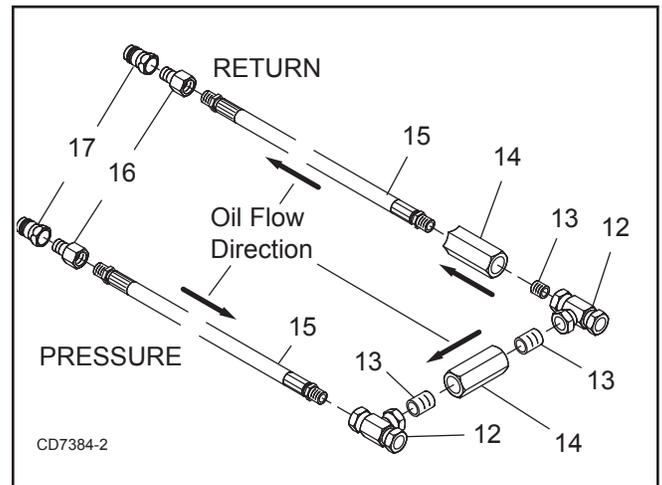
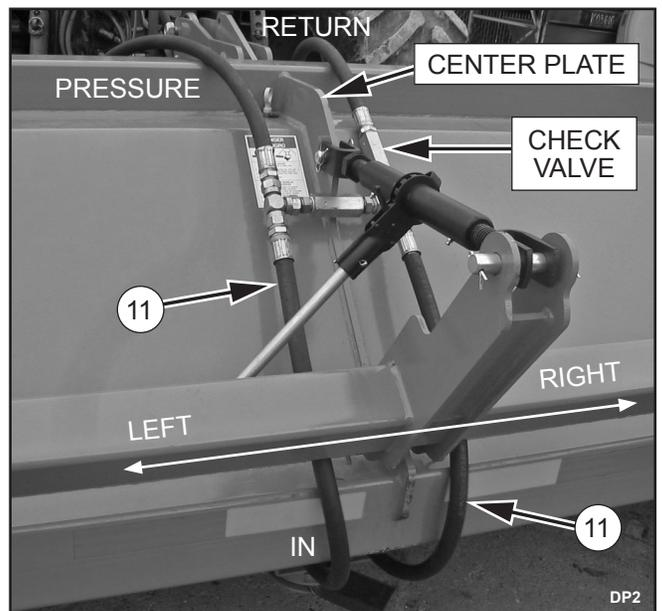

Figure 55. Hose Assembly
Figure 56. Hose Routing
1. Attach male quick coupler (17) and adapter (16) to the end of hose (15). Attach tee (12) to the opposite end of hose.
2. Attach male quick coupler (17) and adapter (16) to the end of second hose (15). Attach check valve (14), nipple (13) and tee (12) to the opposite end of hose.
**NOTE:** Make sure flow indicator arrow on the side of the check valve (14) is pointing in the correct direction. See Figure 55
3. Install check valve (14) and two nipples (13) between the two tees (12).
**NOTE:** Make sure flow indicator arrow on the side of the check valve (14) is pointing in the correct direction.
4. Place hose assembly around center plate of shredder and drape quick couplers over the front of the shredder. See Figure 55 and Figure 56.